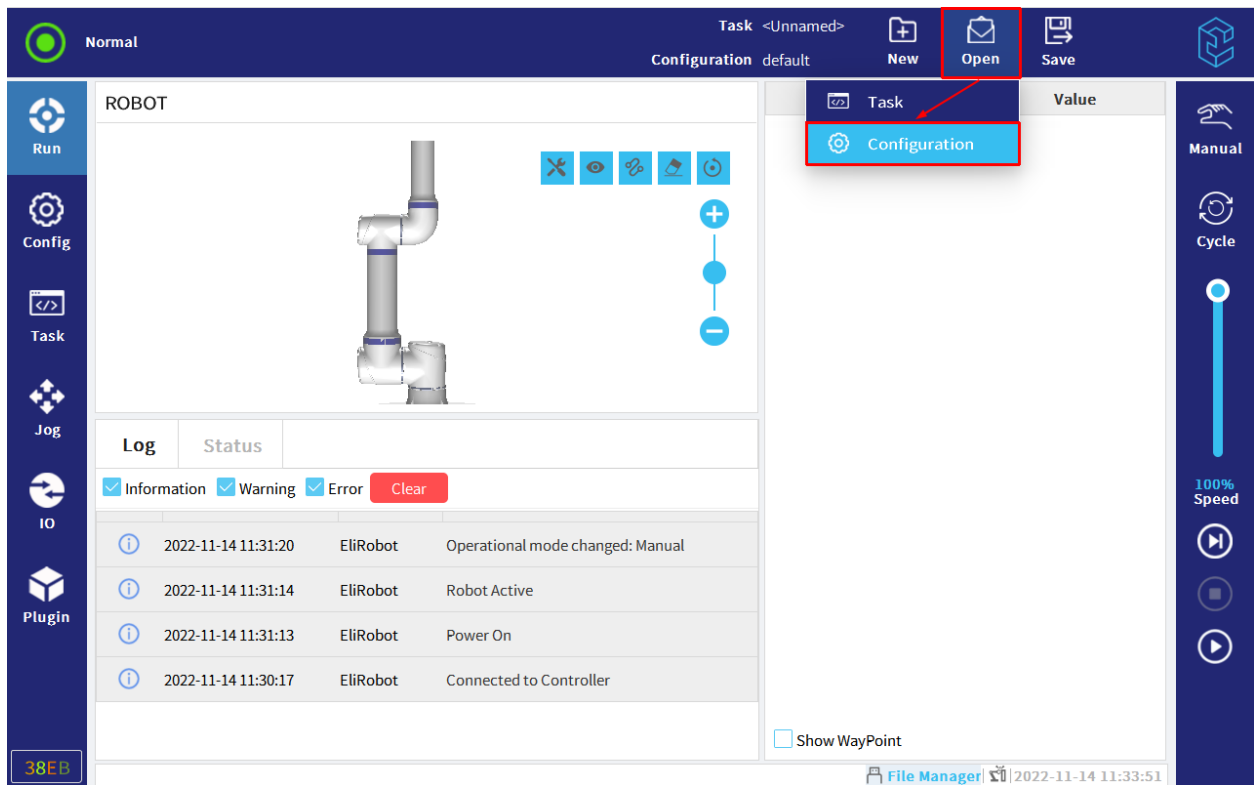

Figure 8-8 Open profile
1. In task and configuration manager, click "Open" and then select "Configuration", as shown in Figure 8-8.